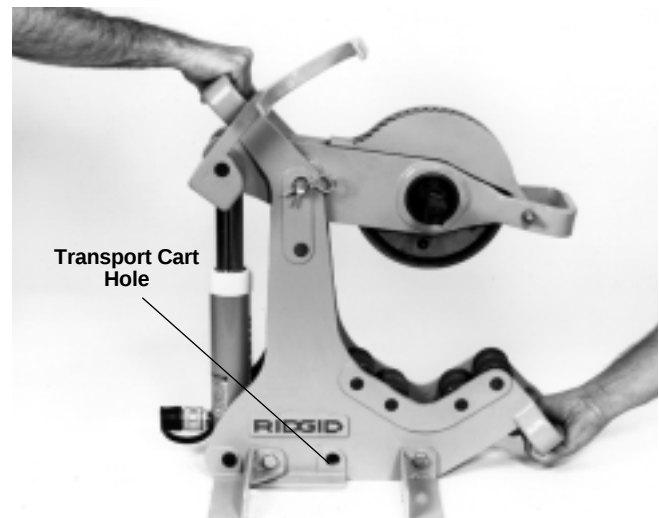

Figure 14 – Hand-holds for Transporting
1. The 258 and 258XL are designed with hand-holds located at top rear, and bottom of frame front, for transporting the cutter (Figure 14). Do not use pivot arm handle to transport, as it may cause damage to the hydraulic cylinder.
A two wheeled cart is available as an accessory to allow for easier transporting. This transport cart, (see catalog for ordering information), is compatible with the 258 ($2\frac{1}{2}$ " – 8") as well as the 258XL (8" – 12"). By using a "J" clamp on the top frame handle along with a hitch pin through a frame hole (Figure 14), the transport cart can easily be installed.